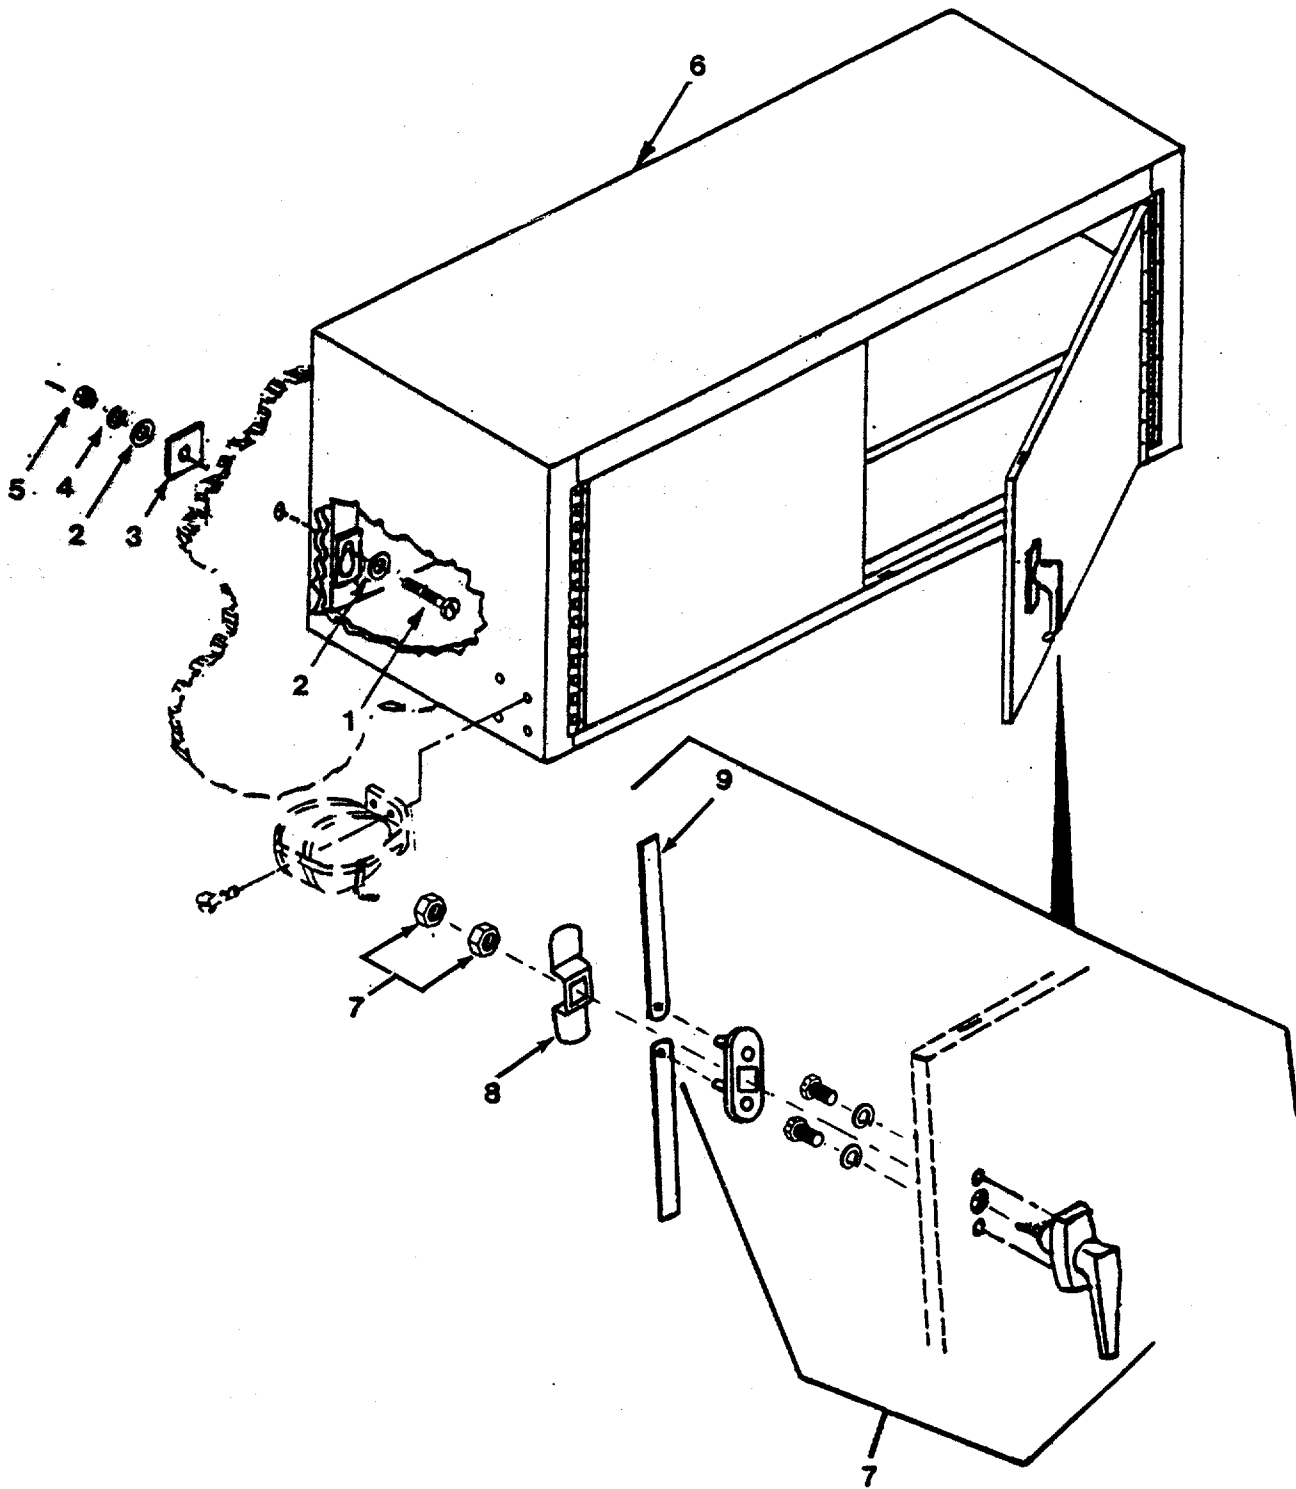

Figure 24. Wall Cabinet Assembly
| (1) ITEM NO | (2) SMR CODE | (3) CAGEC | (4) PART NUMBER | (5) DESCRIPTION AND USABLE ON CODES(UOC) GROUP 10 WALL CABINET ASSEMBLY FIG. 24 WALL CABINET ASSEMBLY | (6) QTY |